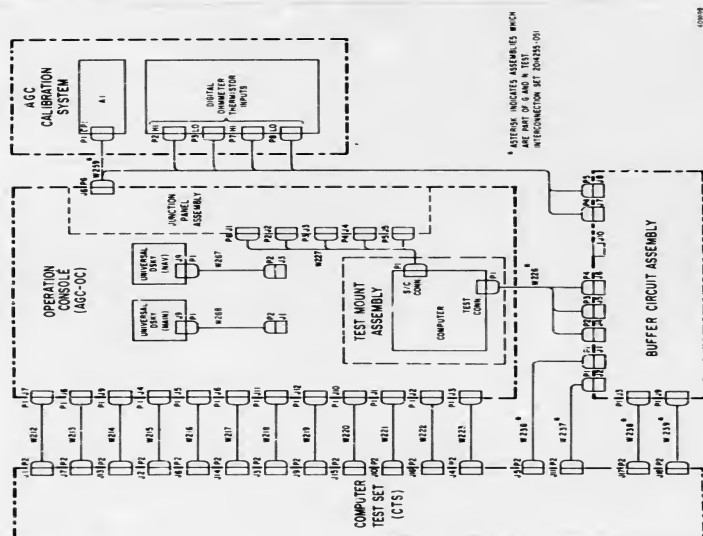

Figure 1. Subsystem Test Interconnections
1. Connect the Subsystem Test Interconnection Set (Drawing No. 2014265) as shown on figure 1.